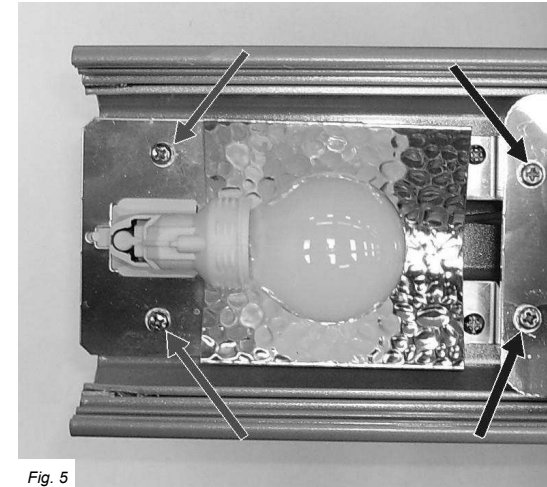

Fig. 5
7. Firstly remove the two screws as highlighted on the right of Fig. 5 to remove the side reflector. If your heater is a model with lights models you should then remove the two screws holding the bulb plate as highlighted on the left of Fig. 5 to allow the bulb plate to be lifted. Repeat at opposite end.